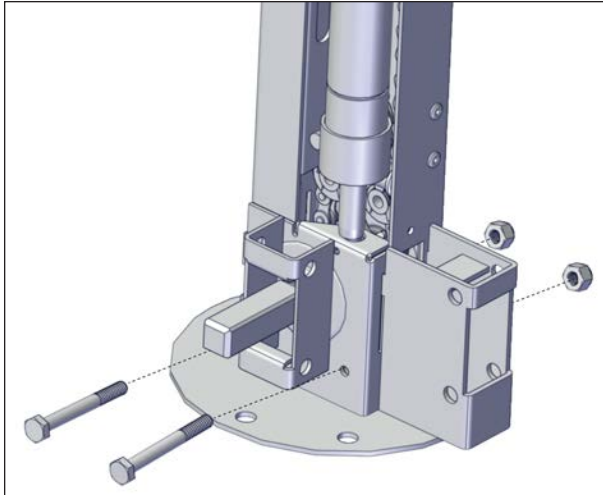

FIGURE 38: SCREW INSTALLATION
5. Install two 1/4" x 2 1/4" hexagonal head screws and nylon-insert lock nuts. Use the appropriate socket wrench spanner to fasten the foot in place see Figure 38.
Make sure you respect the orientation of the fasteners, as shown in Figure 38.